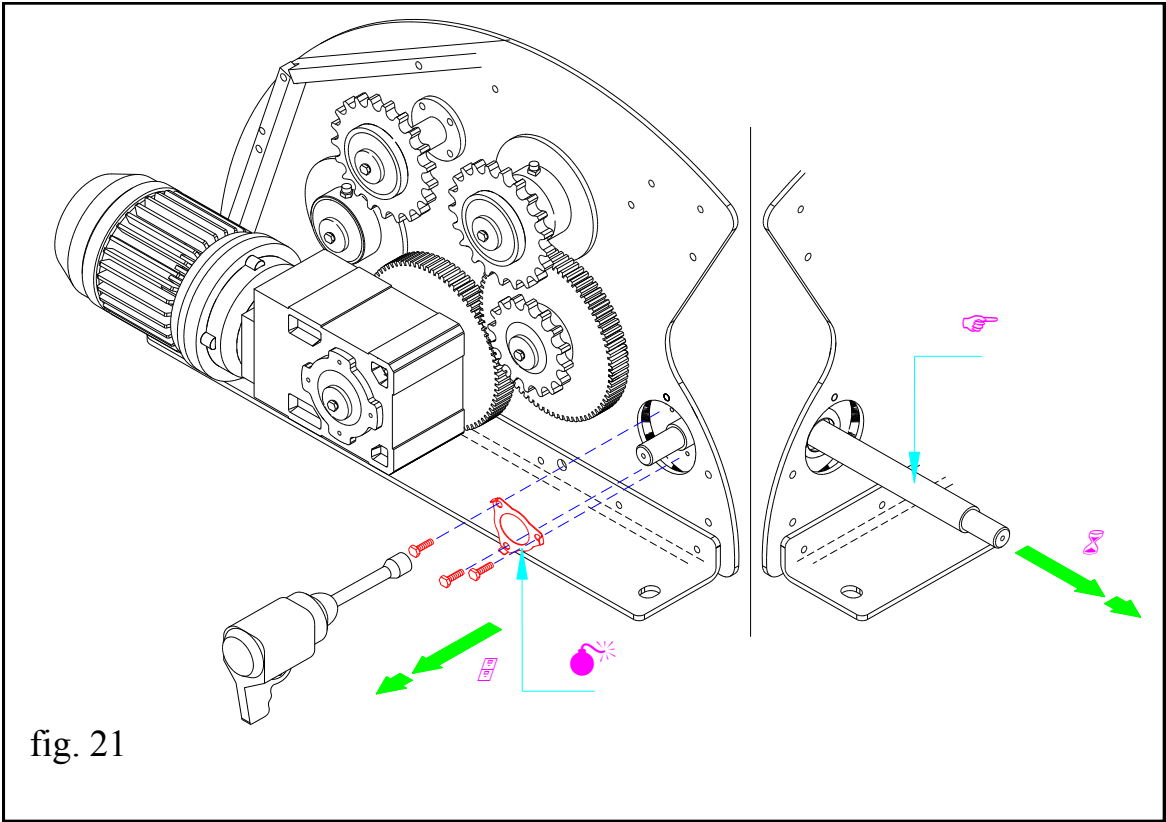

fig. 21
- 5) Unscrew screws that keep flange **M** tightened fig. 21.
- 6) On the opposite side, completely remove shaft **F** from the machine fig. 21.